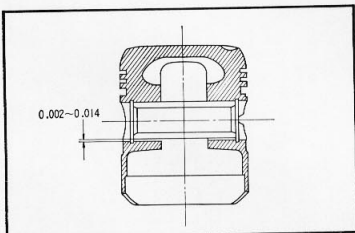

Figure 3-52. Piston pin clearance
- (11) Piston [] are for S50 (Fig. 3-52)